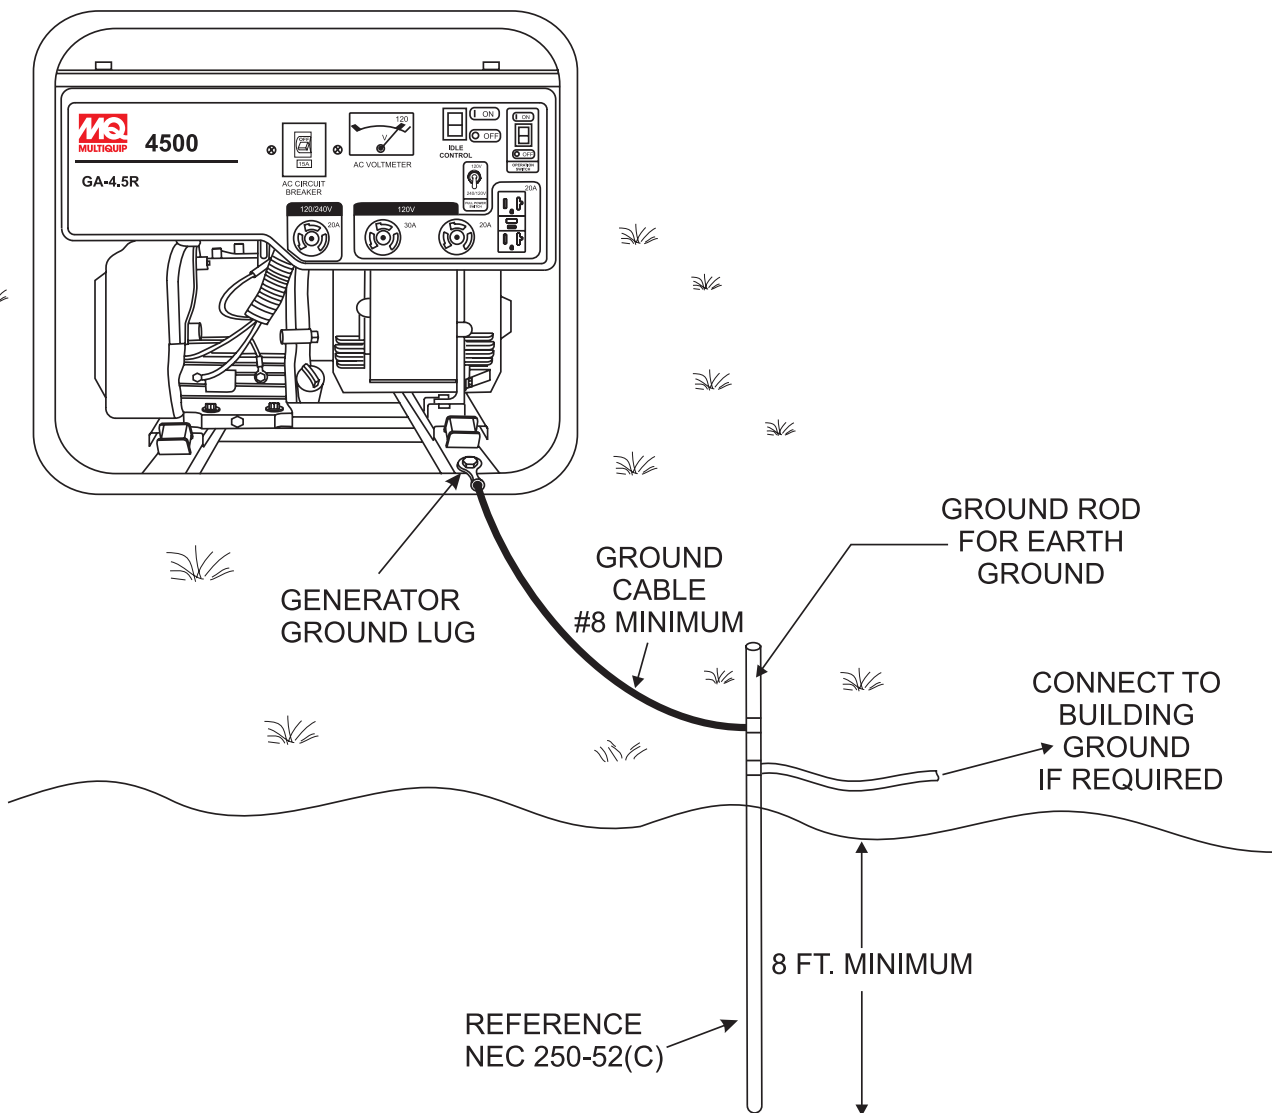

Figure 4. Generator Grounding
2. When grounding the generator (Figure 4) connect the ground cable between the lock washer and the nut on the generator and tighten the nut fully. Connect the other end of the ground cable to earth ground.
At the generator, connect the terminal of the ground cable between the lock washer and the nut (Figure 4) and tighten the nut fully. Connect the other end of the ground cable to a suitable earth ground (ground rod).